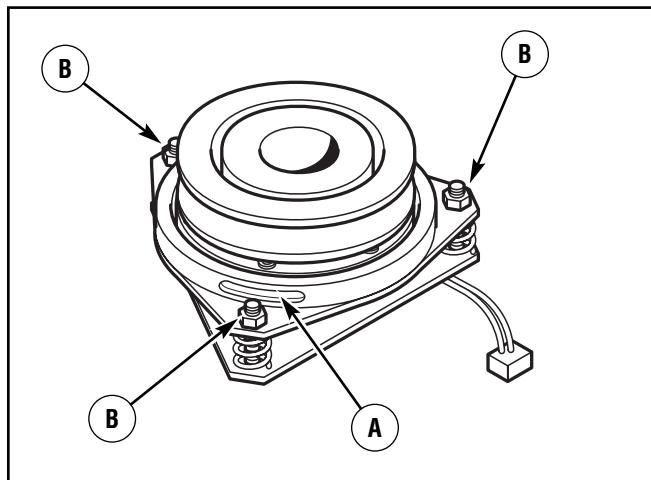

Figure 25: PTO clutch
2. Note the position of the 3 adjustment windows (**A**, **Figures 25 & 26**) in the side of the brake plate and the nylock adjustment nuts (**B**).